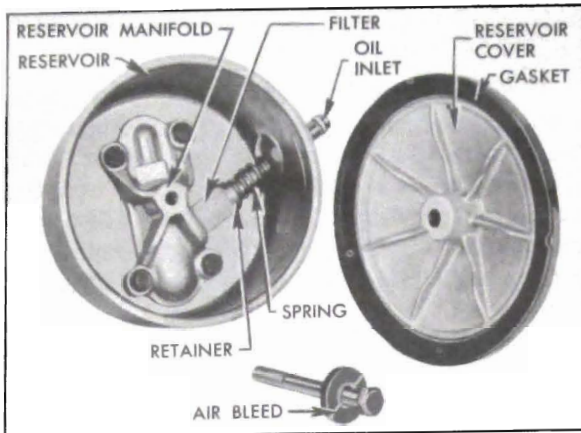

Figure 8-38—Reservoir with Cover Removed
2. Remove reservoir cover, drain out all oil and remove filter screen, filter retainer and filter spring by pushing the retainer back against the spring. See Figure 8-38.